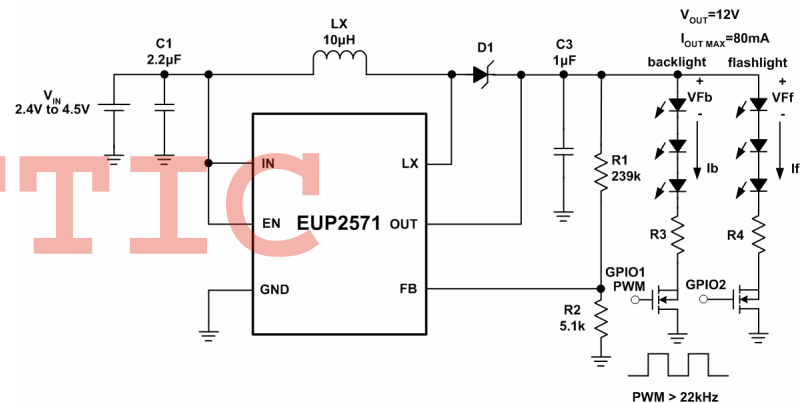

Figure 8. Constant Output Voltage for Backlight and Flashlight
Figure 8 is an application of EUP2571 for backlight of main panel and flashlight. Setting the divider-resistors (R1 & R2) is to get a constant output voltage that depends on the forward voltage and the numbers of series-LEDs. There are three kinds of mode controlled by the switches - backlight mode /flashlight mode /backlight + flashlight mode. It can turn on backlight or flashlight at one time or both at the same time. Applying different duty cycle of PWM signal above 22kHz to backlight's switch can also control the brightness. The following formula (2)(3) can determine R3 and R4.